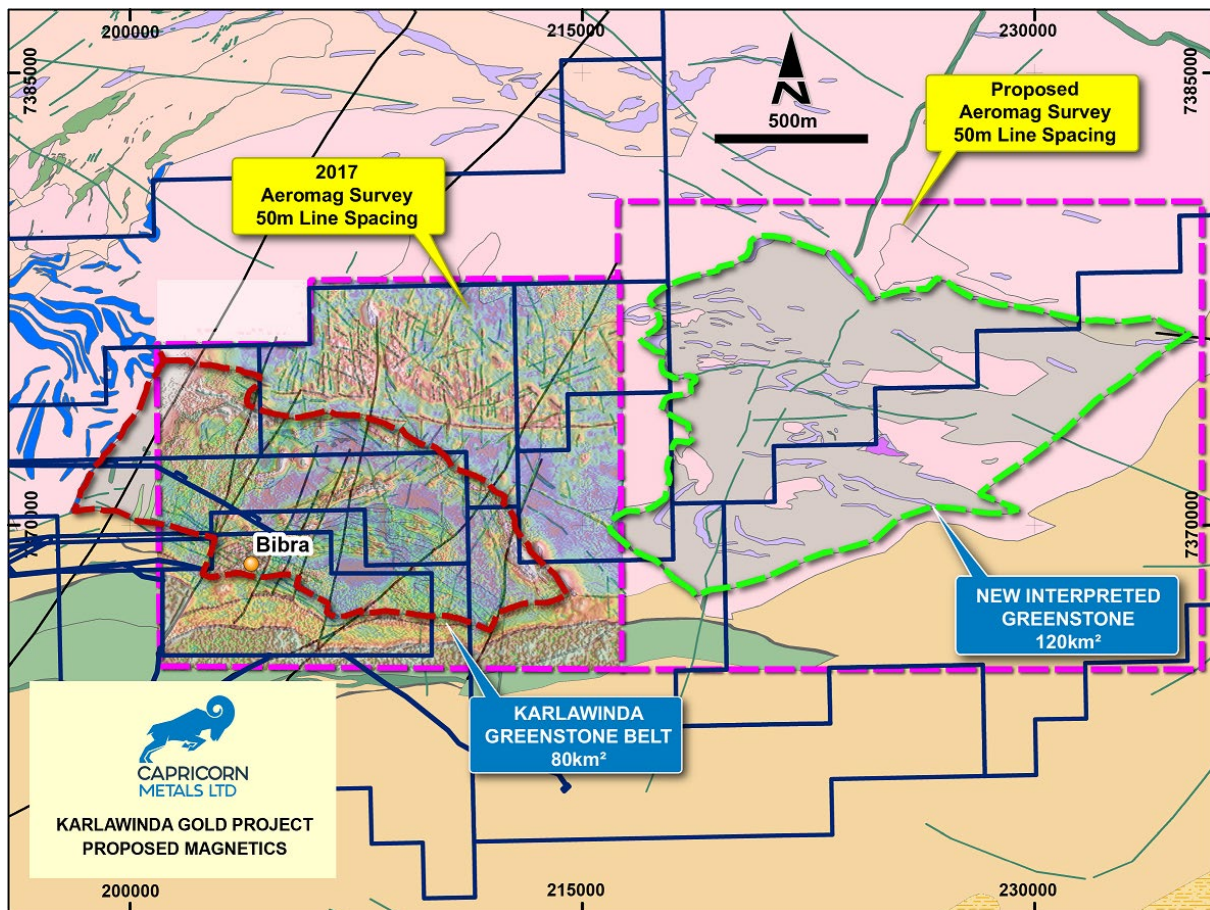

Figure 3: Proposed airborne magnetic survey over the New interpreted greenstone region
- The new survey will cover a total area of 20km x 12km (figure 3) on a flight line spacing of 50m and will augment the airborne magnetic survey completed in June 2017.